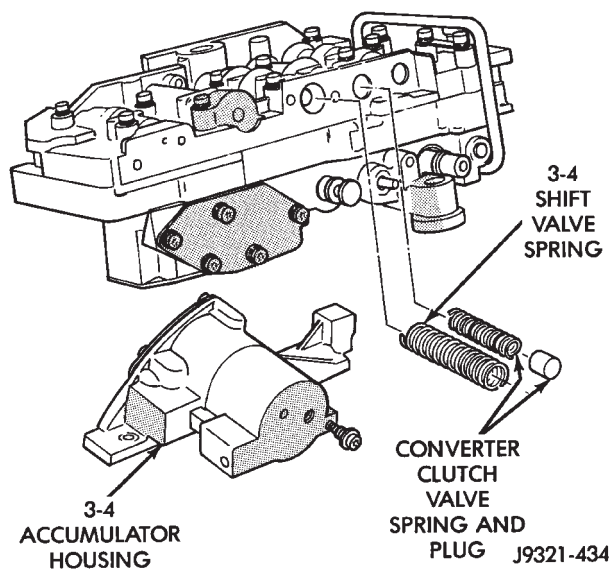

Fig. 110 3-4 Accumulator Housing, Valve Springs And Plug Removal
(22) Remove left-side screw and remove 3-4 accumulator housing from valve body (Fig. 110).